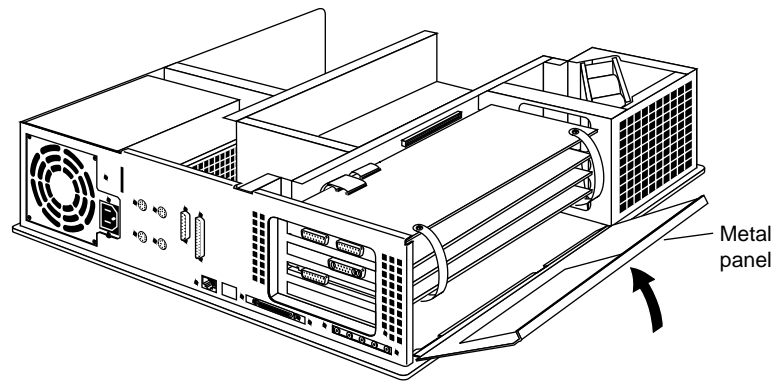

Figure 2-28 Closing the Metal Panel
5. Lift the metal panel and snap it down into place (Figure 2-28).